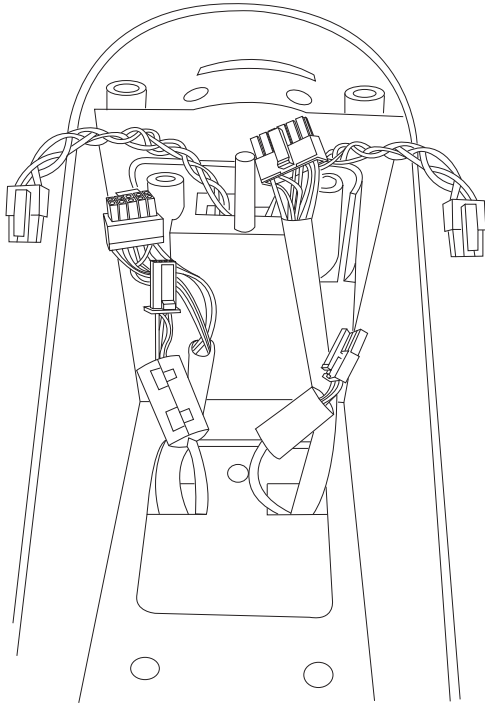

Figure 10-2: BSA Cable Orientation
4. Ensure that wires are correctly routed through BSA cable router. Feed up CU and BSA harnesses through holes in cover. See Figure 10-2.